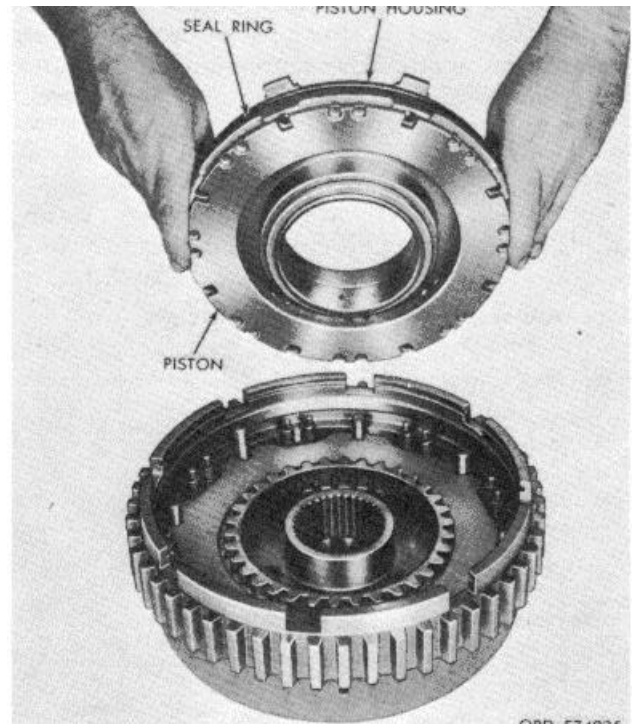

Figure 7-36. Removing output clutch piston and piston housing
b. Release the press and remove the output clutch piston housing and piston as a unit (fig. 7-36).